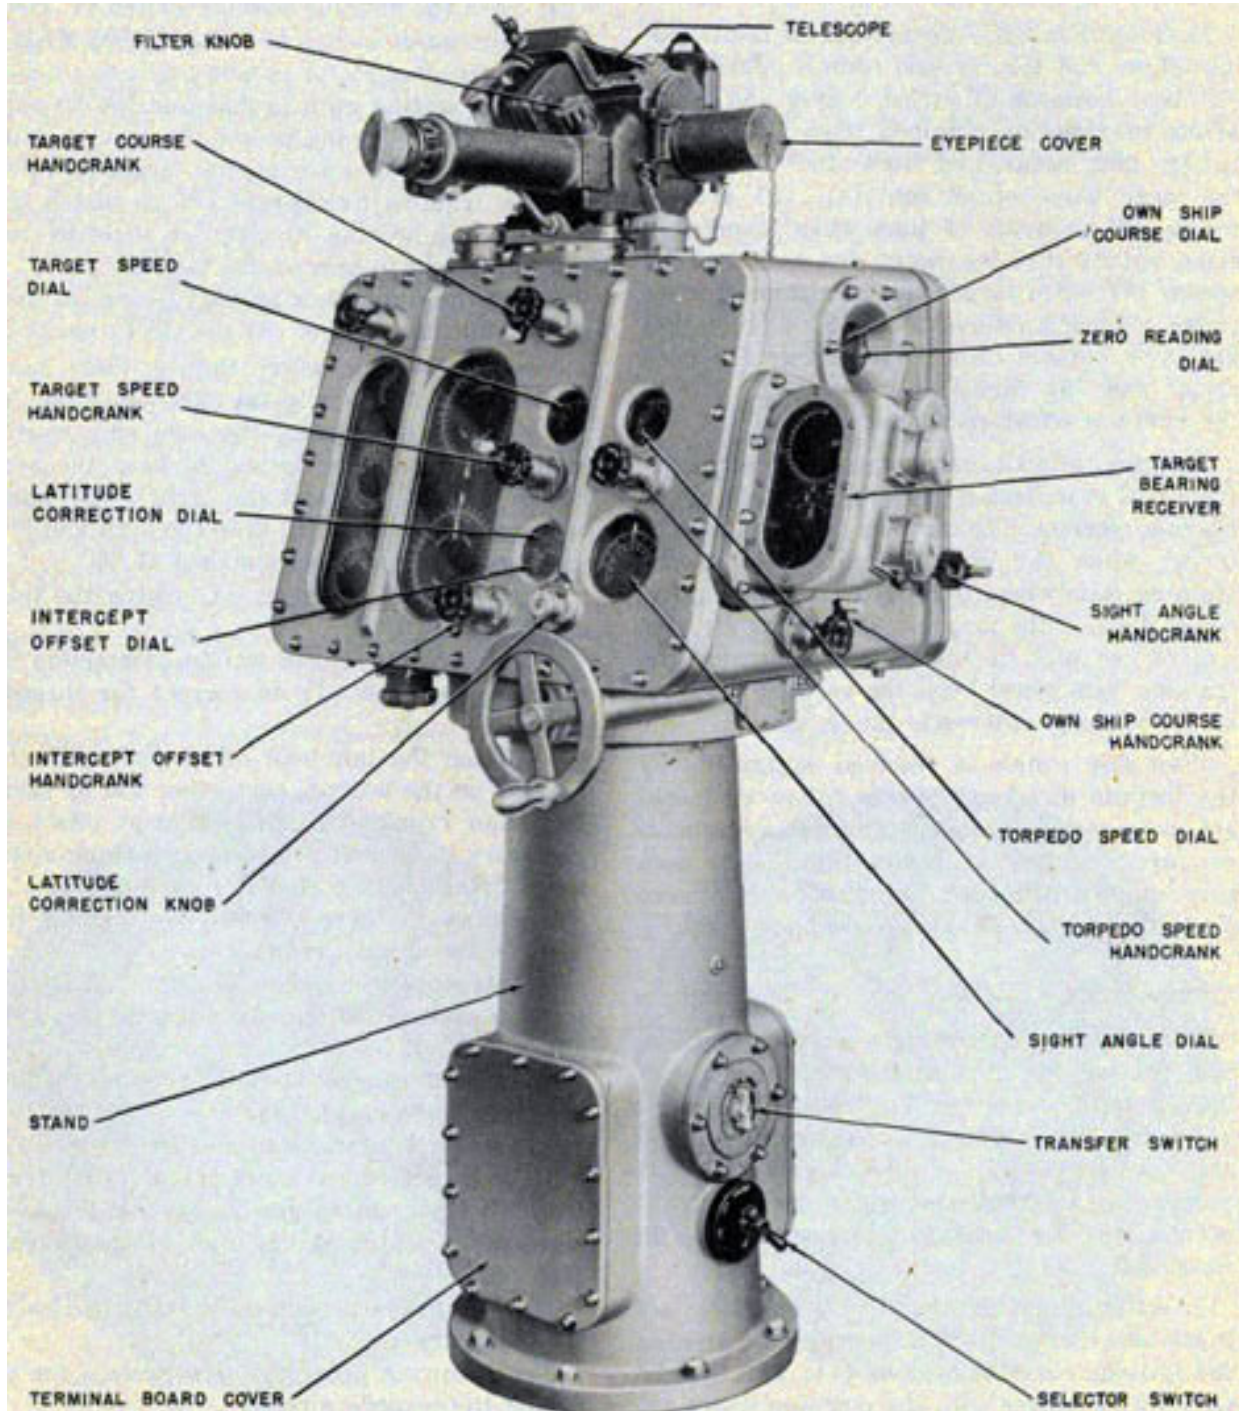

Figure 26-Front right view Torpedo Director Mk 27 Mod 5.
The torpedo director consists of two main assemblies: (1) the rotating case and (2) the stand. See figures 26 and 27.
The training handwheel, located below the lower-right front side of the case, is connected by means of shafting through the base of the case to the training worm. See figures 26 and 50.
the sight angle and the own ship course hand cranks. The bearing receiver assembly is attached to this side of the case. See figures 26 and 53.